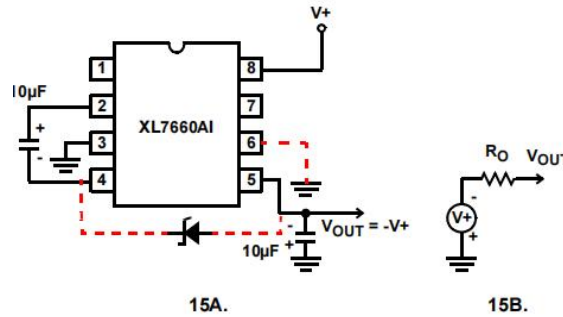
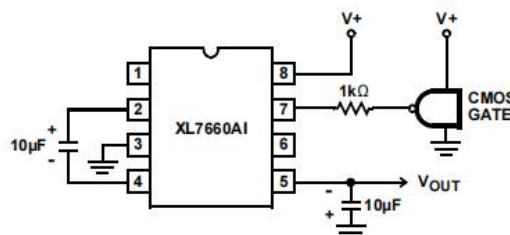
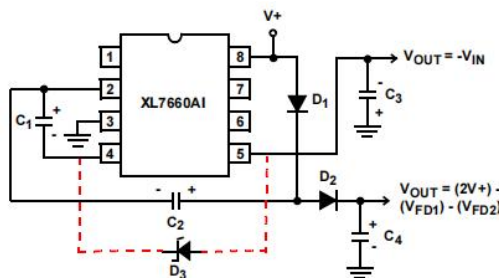
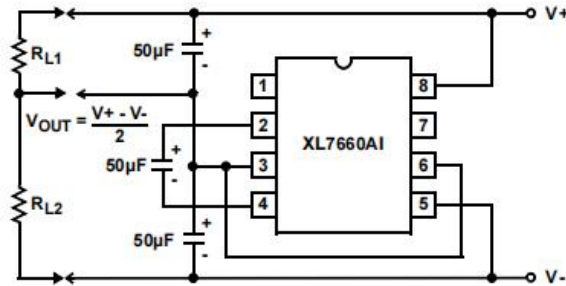

FIGURE 14. SIMPLE NEGATIVE CONVERTER AND ITS OUTPUT EQUIVALENT
FIGURE 15. EXTERNAL CLOCKING
FIGURE 18. COMBINED NEGATIVE VOLTAGE CONVERTER AND POSITIVE DOUBLER
FIGURE 19. SPLITTING A SUPPLY IN HALF
The majority of applications will undoubtedly utilize the XL7660AI for generation of negative supply voltages. Figure 14 shows typical connections to provide a negative supply where a positive supply of +1.5V to +11.5V is available. Keep in mind that pin 6 (LV) is tied to the supply negative (GND) for supply voltage below 3.5V.
The output characteristics of the circuit in Figure 15 can be approximated by an ideal voltage source in series with a resistance as shown in Figure 15B. The voltage source has a value of $-(V_+)$. The output impedance (R_0) is a function of the ON resistance of the internal MOS switches (shown in Figure 14), the switching frequency, the value of C1 and C2, and the ESR (equivalent series resistance) of C1 and C2. A good first order approximation for R_0 is shown in Equation 2:
Increasing the oscillator frequency can also be achieved by overdriving the oscillator from an external clock, as shown in Figure 15. In order to prevent device latchup, a 1kΩ resistor must be used in series with the clock output. In a situation where the designer has generated the external clock frequency using TTL logic, the addition of a 10kΩ pull-up resistor to V₊ supply is required. Note that the pump frequency with external clocking, as with internal clocking, will be one-half of the clock frequency. Output transitions occur on the positive going edge of the clock.
Figure 18 combines the functions shown in Figure 14 and Figure 17 to provide negative voltage conversion and positive voltage doubling simultaneously. This approach would be suitable, for example, for generating +9V and -5V from an existing +5V supply. In this instance, capacitors C1 and C3 perform the pump and reservoir functions, respectively, for negative voltage generation, while capacitors C2 and C4 are pump and reservoir, respectively, for the doubled positive voltage. There is a penalty in this configuration which combines both functions, however, in that the source impedances of the generated supplies will be somewhat higher, due to the finite impedance of the common charge pump driver at pin 2 of the device.
The bidirectional characteristics can also be used to split a high supply in half, as shown in Figure 19. The combined load will be evenly shared between the two sides, and a high value resistor to the LV pin ensures start-up. Because the switches share the load in parallel, the output impedance is much lower than in the standard circuits, and higher currents can be drawn from the device. By using this circuit, and then the circuit of Figure 15, +15V can be converted, via +7.5 and -7.5, to a nominal -15V, although with rather high series output resistance (~250Ω).